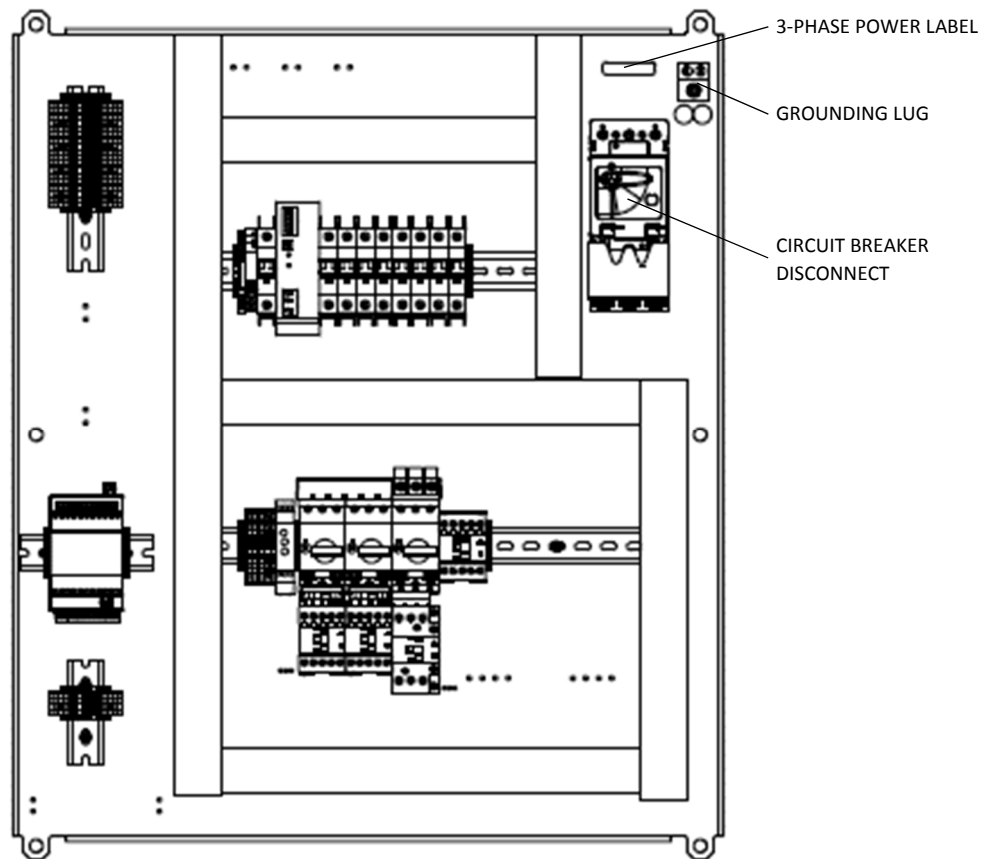

Figure 9: Electrical Panel (Simplified)
5. Wire the ground lead to the provided ground lug (refer to Figure 9).